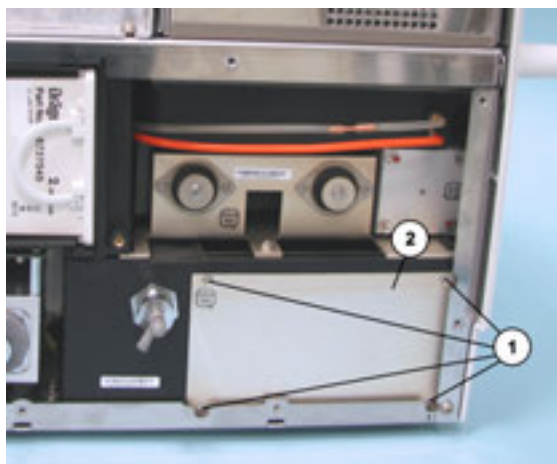

Fig. 97 Rear of device: Cover plate
- 1 Remove the screws (Fig. 97/1).
- 2 Remove the cover plate (Fig. 97/2).
- 7 Use the screws (Fig. 97/1) to secure the cover plate (Fig. 97/2).